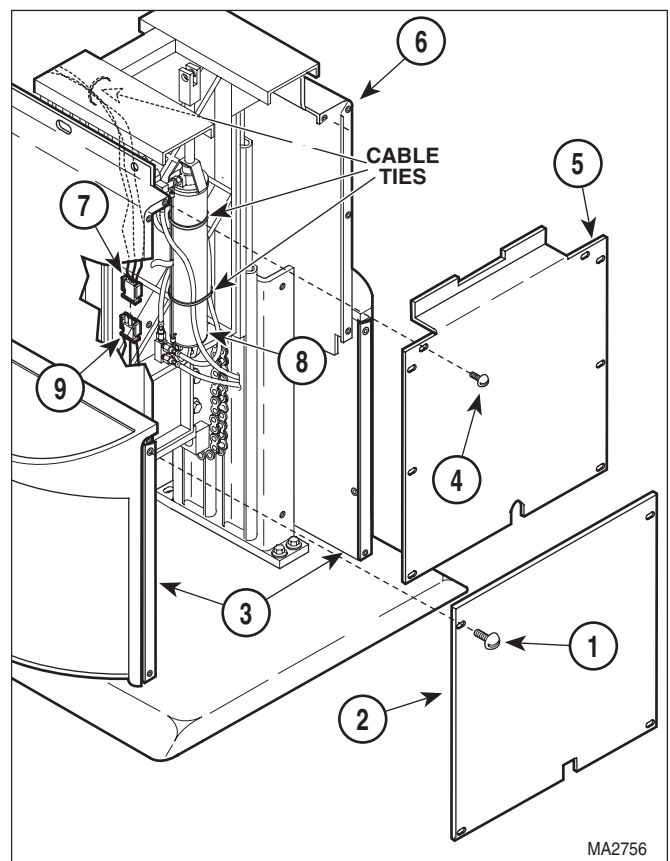
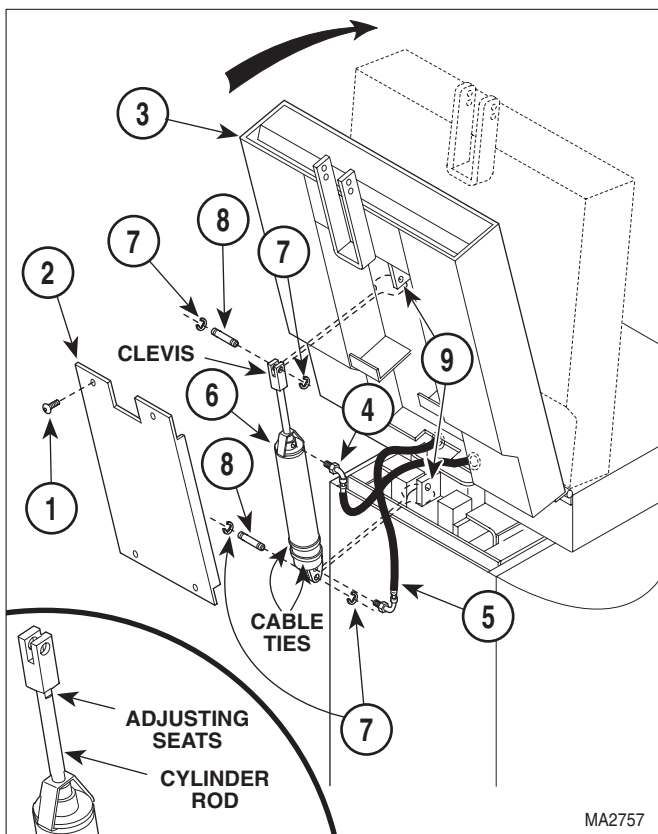

Figure 4-11. Back Cylinder Wire Harness Disconnection / Connection
Figure 4-12. Back Cylinder Removal / Installation
- (1) Raise TILT UP and FOOT UP functions all the way up.
- (2) Unplug table power cord from outlet.
- (3) Remove four screws (1, Figure 4-11) and front outer shroud (2) from left and right hand outer shrouds (3).
- (4) Remove eight screws (4) and front inner shroud (5) from left and right hand inner shrouds (6).
- (5) Cut three cable ties securing back cylinder wire harness (7) to tilt cylinder (8) and other hoses / wire harnesses.
- (6) Disconnect back cylinder wire harness (7) from wire harness (9).
- (7) Remove four screws (1, Figure 4-12) and back cover (2) from back weldment (3).
- (8) Cut two cable ties which are securing hose assemblies (4 and 5) to back cylinder (6).
- (9) While supporting back weldment (3), remove four e-rings (7), two clevis pins (8), and partially separate back cylinder (6) from cylinder brackets (9). Fold back section over onto seat section.
- (10) Tag hose assemblies (4 and 5).
- (11) Disconnect hose assembly (4) from back cylinder (6).
- (12) Disconnect hose assembly (5) from back cylinder (6); then remove back cylinder (6) from table.
- (1) Connect hose assembly (5, Figure 4-12) to back cylinder (6).
- (2) Connect hose assembly (4) to back cylinder (6).
- (3) Install back cylinder (6) on cylinder brackets (9) and secure with two clevis pins (8) and four e-rings (7).
- (4) Secure hose assemblies (4 and 5) to back cylinder (6) with two cable ties.
- (5) Route back cylinder wire harness (7, Figure 4-11) thru table.
- (6) Connect back cylinder wire harness (7) to wire harness (9).
- (7) Secure back cylinder wire harness (7) to tilt cylinder (8) and other hoses / wire harnesses with cable ties (approximately three).
- (8) Install front inner shroud (5) on left and right hand outer shrouds (6) and secure with eight screws (4).
- (9) Install front outer shroud (2) on left and right hand inner shrouds (3) and secure with four screws (1).
- (10) Plug table power cord into outlet.
- (11) Lower TILT function all the way down; then lower BACK DOWN function all the way down.
- (12) If back section (3, Figure 4-12) *is not* level with seat section when the BACK DOWN function is completely lowered, perform steps 13 thru 15. If back section *is* level with seat section when the BACK DOWN function is completely lowered, go to step 16.